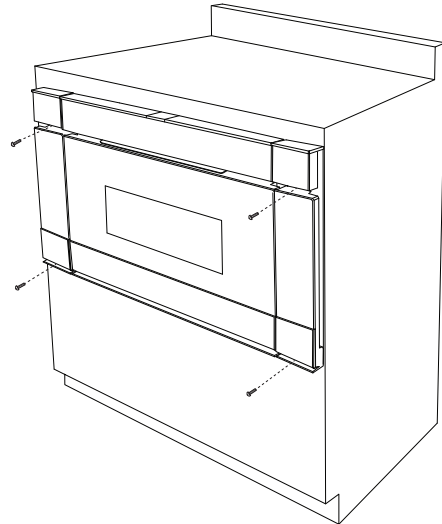

**Figure 6**
- Using the 4 holes on each bracket as a template, pre-drill the cabinet using a 1/16" (1.6 mm) bit. Secure the mounting brackets to cabinet with the 8 bracket screws provided. See Figure 6.